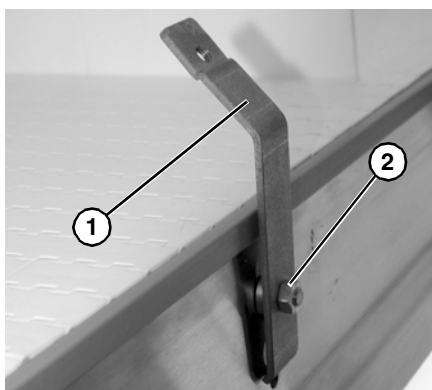

Figure 39
2. Attach the guide mounting brackets (**Figure 39, item 1**) to the conveyor with hex nuts (**Figure 39, item 2**). Hand tighten only at this time.